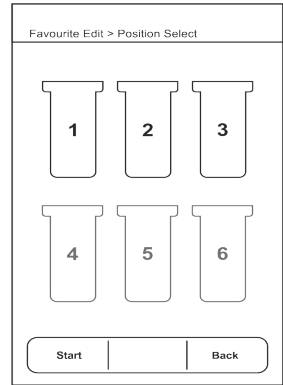

Fig. No. 29.1
c. **Position Selection** (Ref. Fig. No. 29.1)